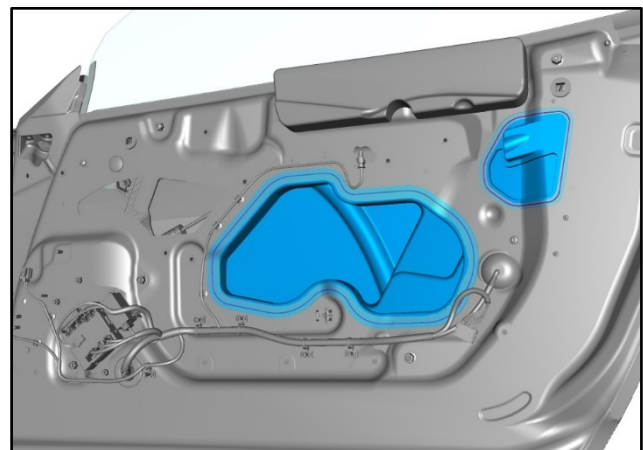

Figure 25
46. Install the two water shedder panels (refer to Figure 25).